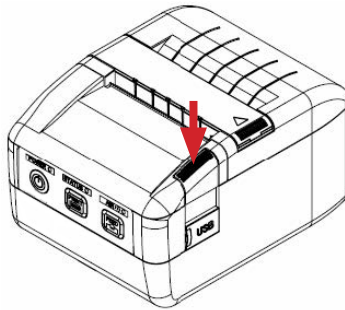

Figure 10: Paper Cover Release
1. Press the Paper Cover Release button to open the cover (*Figure 10*).